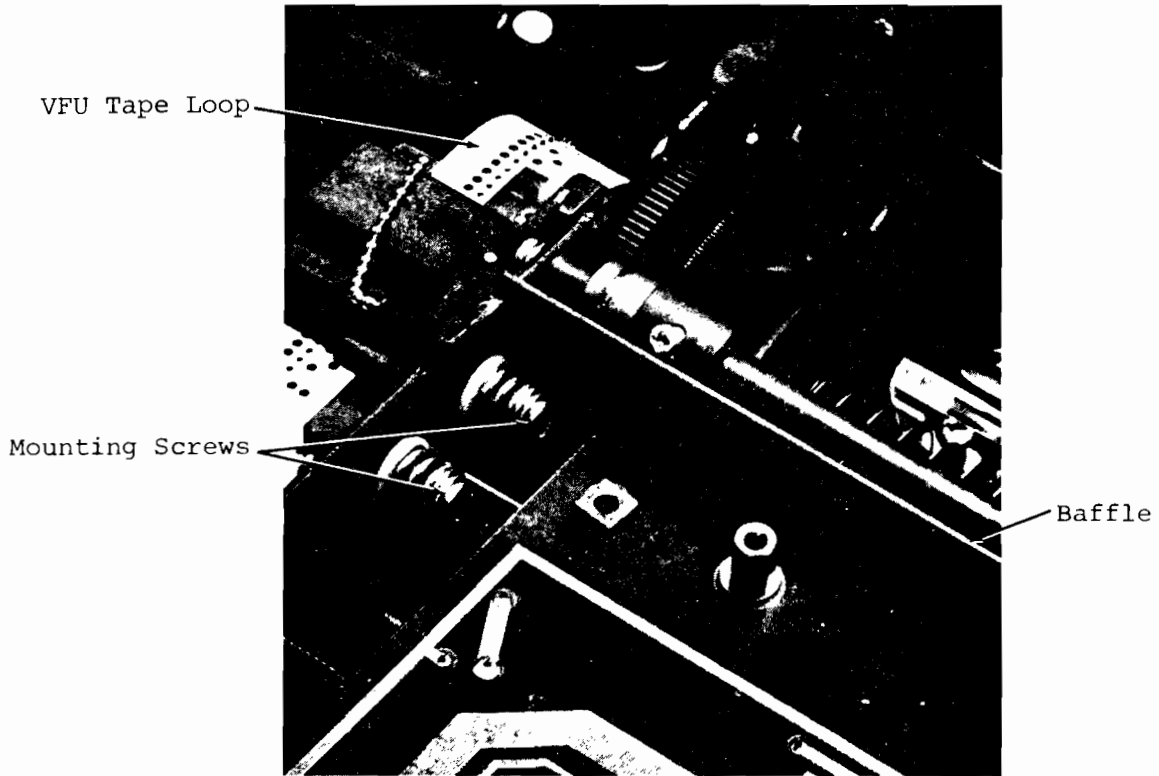

Figure 5-4. VFU Mounting
- c. Remove the mounting screw (figure 5-4) located nearest the rear of the VFU.